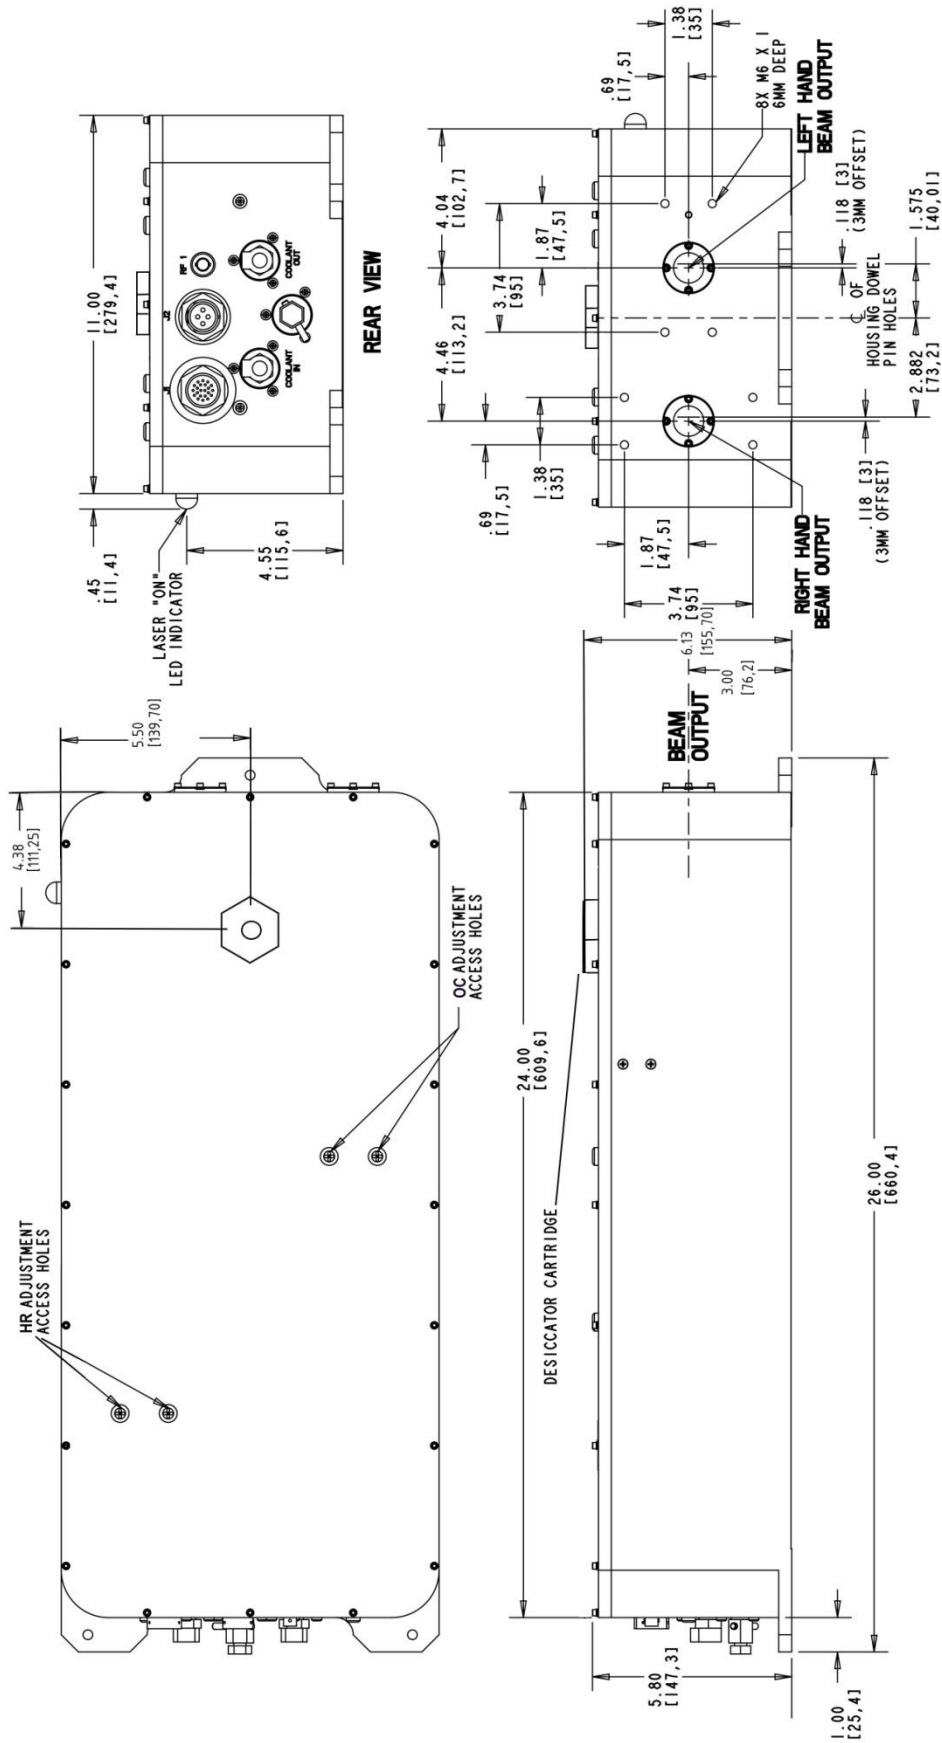

Figure 2-1 Patara Laser Head Dimensions, Sheet 1
The detailed dimensions of the Patara laser are shown in Figure 2-1 and 2-2. The laser head has dimensions of 26 inch (L) x 11 inch (W) x 6.13 inch (H).